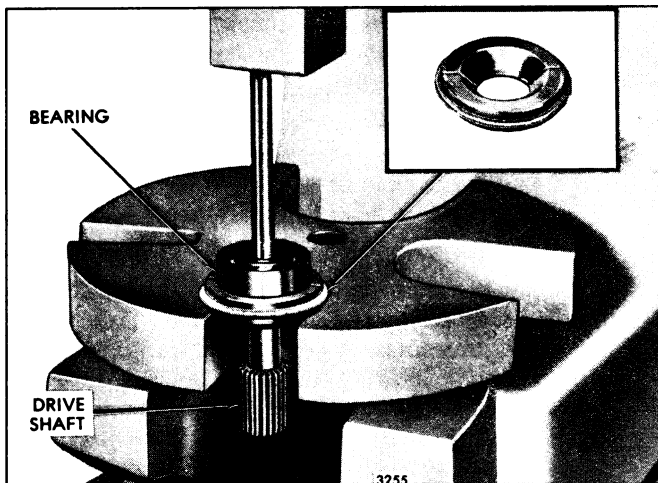

Fig. 5 - Removing Bearing from Drive Gear with Tool J 4685
7. Support the gear and bearing assembly on an arbor press. Place a brass rod on the end of the shaft and press the gear and shaft from the bearing (Fig. 5).